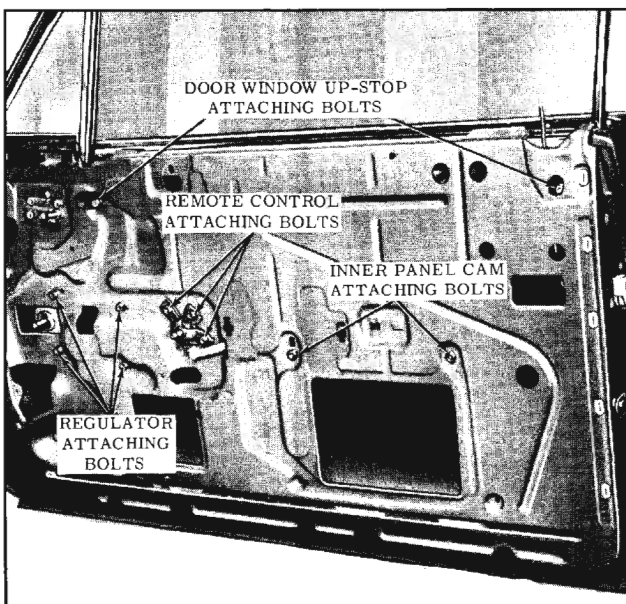

Fig. 16-31 Front Door Hardware (Typical Holiday)
2. Remove bolts securing door inner panel cam assembly and disengage cam from regulator balance arm and remove cam from door. (Fig. 16-31)
2. Remove remote control attaching screws and disengage remote control from connecting rod. (Fig. 16-31)
2. Through holes in inner panel, remove screw securing window assembly front and rear stops to lower window sash channel. Lower window slightly and remove stops. (Fig. 16-31)
1. To correct a condition where glass is "cocked" in glass run channels, loosen inner panel cam attaching screws, adjust cam up or down as required and retighten screws. (Fig. 16-31)
5. To adjust limit of "up" travel of window assembly for proper contact with side roof rail weatherstrip, raise door window and through inner panel access holes, loosen door window front and rear stop assembly attaching bolts. Adjust stops up or down as required, then tighten attaching bolts. (Fig. 16-31)